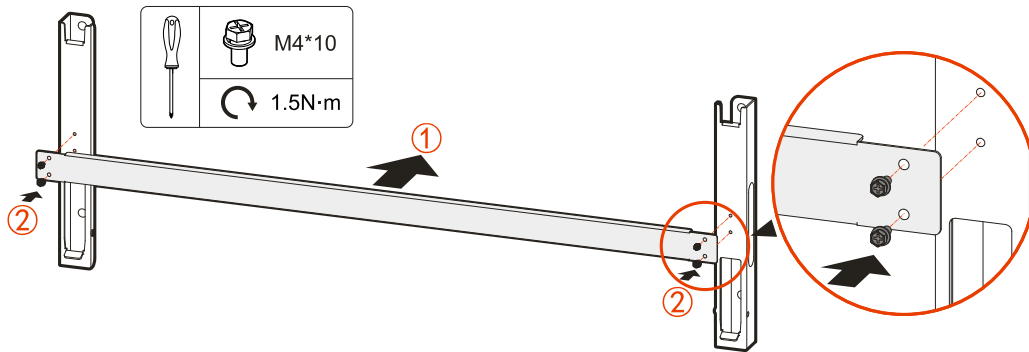

Figure3-18 Assembling the wall mount
- Step 1 Use four M4*10 combination bolts in the random accessories to fix the wall mount assembly through the connecting rod, as shown in Figure3-18.